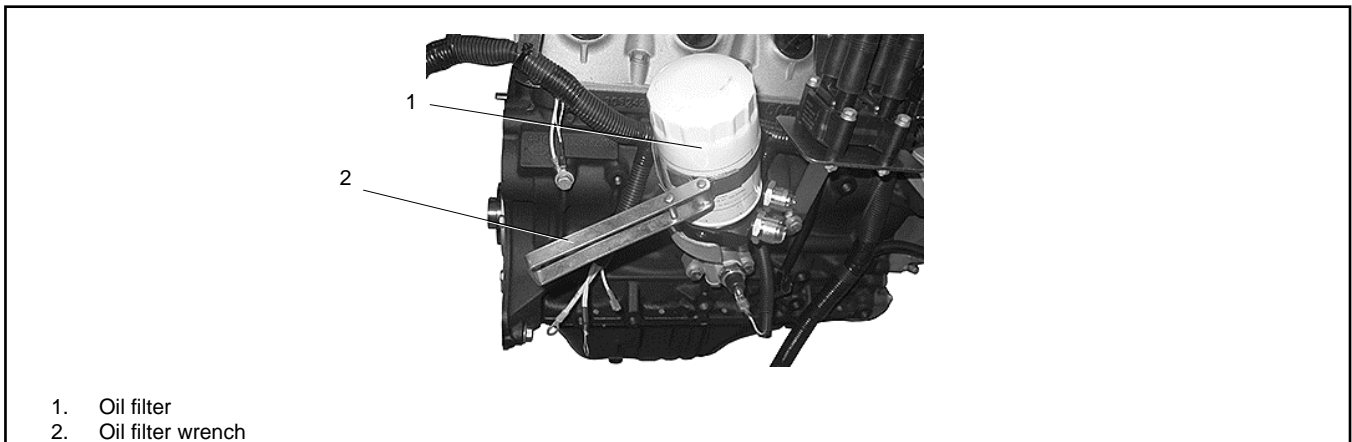

Figure 21 Oil Filer with wrench
4. Using an oil filter wrench, remove the old oil filter. See Figure 21.